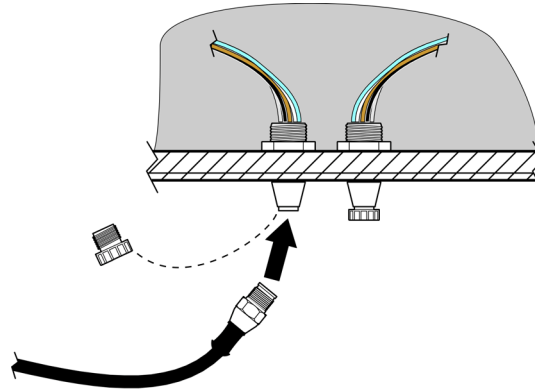

Figure 6 Attach the sensor to the controller with the quick-connect fitting
1. Unscrew the protective cap on the socket on the controller (Figure 6). Retain the protective cap to seal the connector opening in case the sensor must be removed.